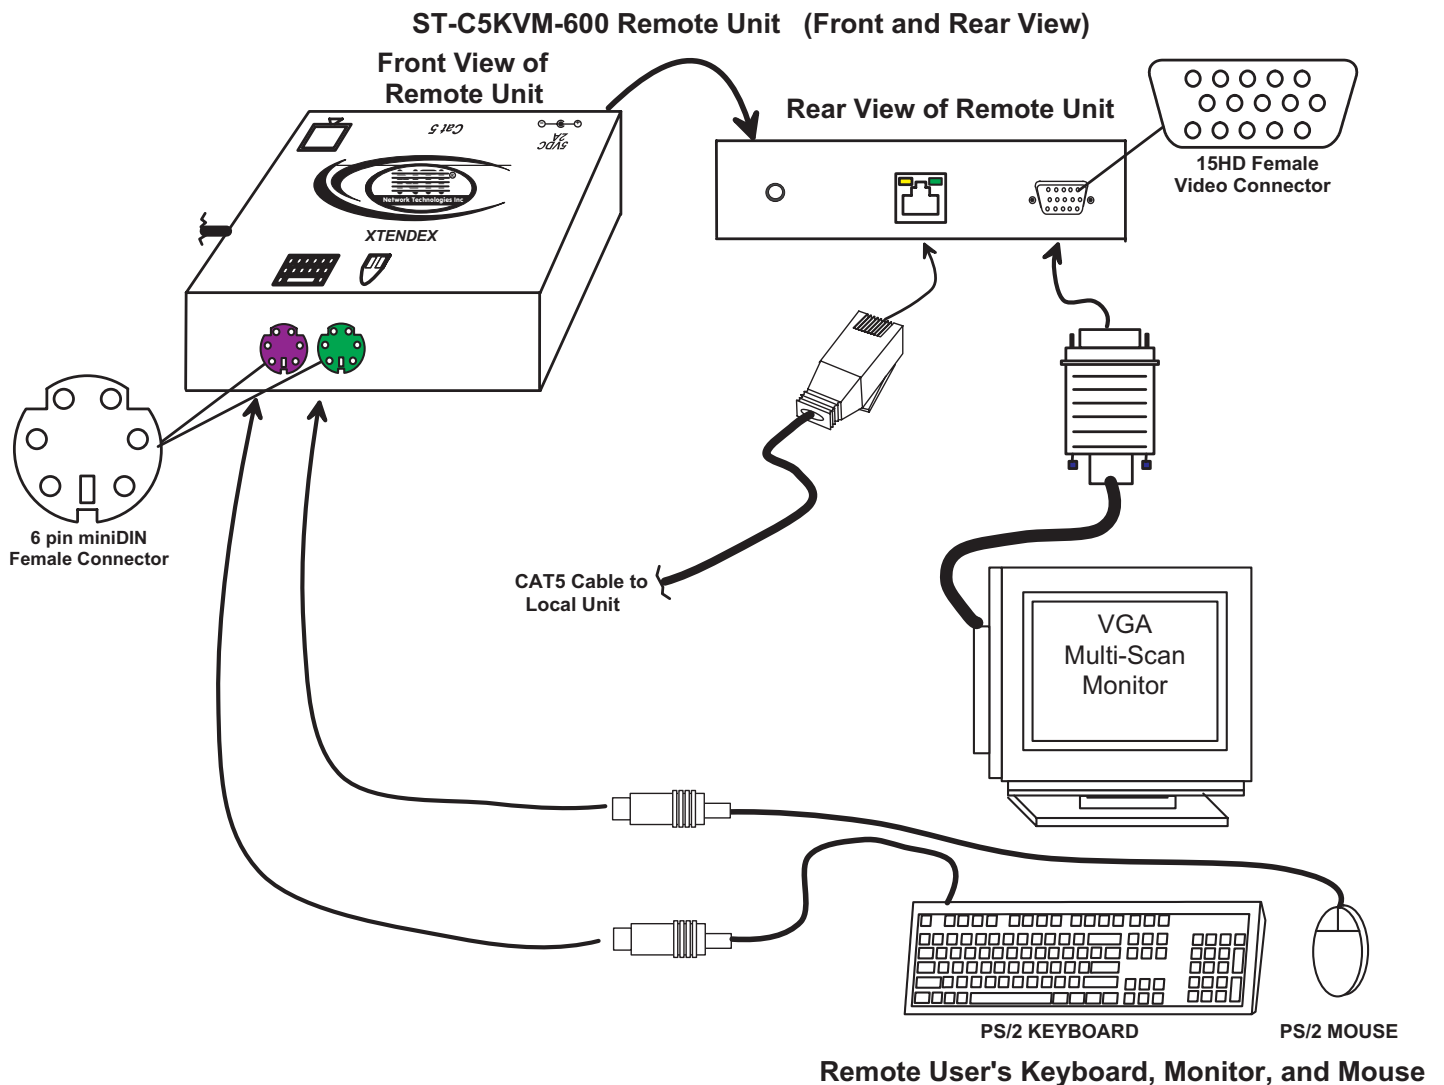

Figure 3- Connect the Extended Components to the Remote Unit
3. Connect the device(s) to the Remote Unit (see Fig. 3).
4. Make sure the CAT5 cable has been installed in accordance with the "Preparation for Installation" instructions on page 3. Connect the CAT5 cable to the "Cat 5" port on the Remote Unit. (See Fig. 3.) When properly inserted the CAT5 cable end should snap into place.